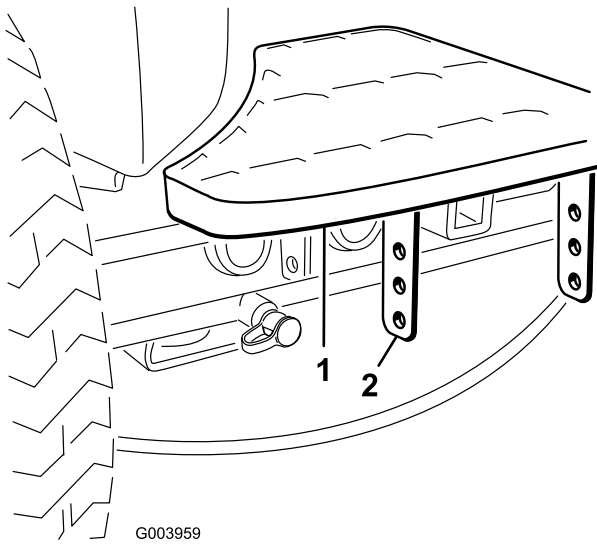

Figure 2
1. Remove the 2 bolts and nuts securing the step brackets to the traction unit frame (Figure 2).